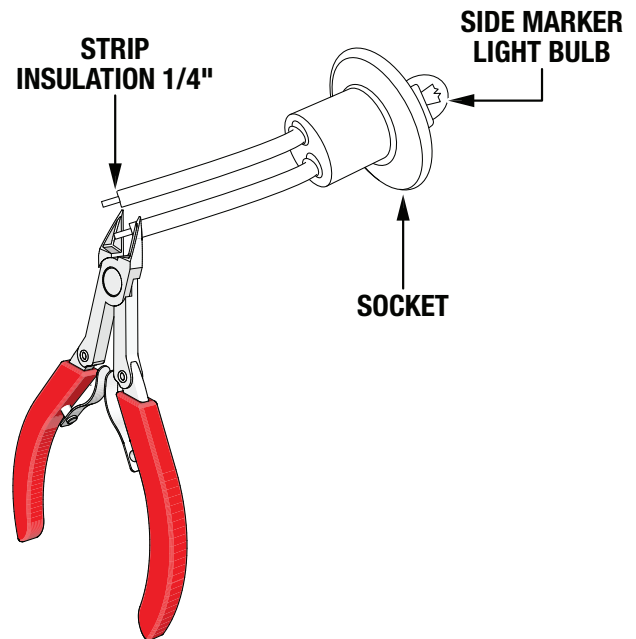

Figure 20. Strip Side Marker Wires
- Strip the insulation back 1/4-inch (6 mm) from the ends of the wires extending from the back of the side marker light bulb socket to expose the conductors. See Figure 20.